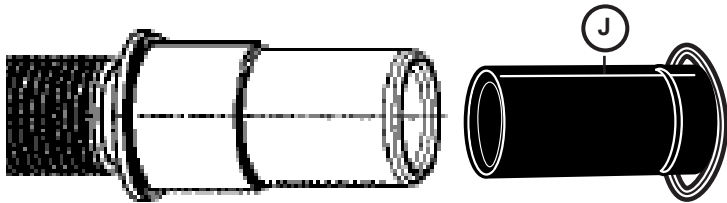

Figure 13
2. Obtain the Rubber Drain Hose Adaptor (J) spring clamp from the Dishwasher Installation Kit (**do not substitute**).
3. Insert the dishwasher drain hose into the **end of the drain hose** (see **Figure 13**. Be sure to fully insert the drain hose).